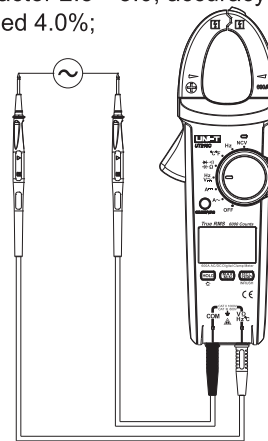

Figure 6
3. AC voltage measurement (see Figure 6)